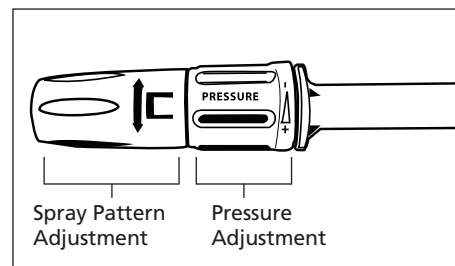

Figure 2
- Confirm that the lance is not adjusted to the soap position. See Figure 2.